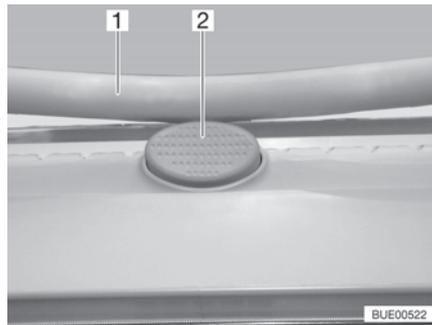

Fig. 54 Safety knob (Heki skylight)
- Press the safety knob (Fig. 54,2) and pull the bar (Fig. 54,1) down with both hands.
- Push the bar upwards with both hands until it is above the safety knob (Fig. 54,2).